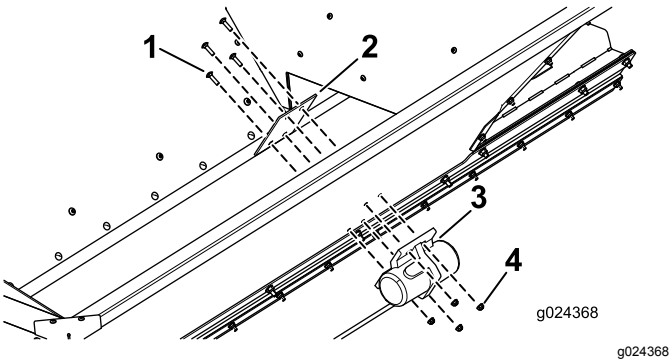

Figure 13
- Secure the mounting plate and the vibrator to the vehicle using the 4 carriage bolts and 4 nuts as shown in Figure 13.